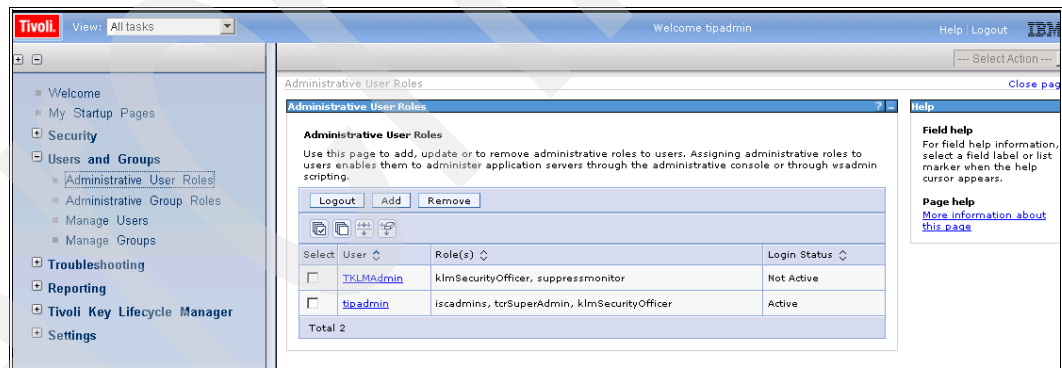

Figure 9-8 Administrative user roles panel
3. On the **Administrative User Roles** panel, click **Add** (Figure 9-8).